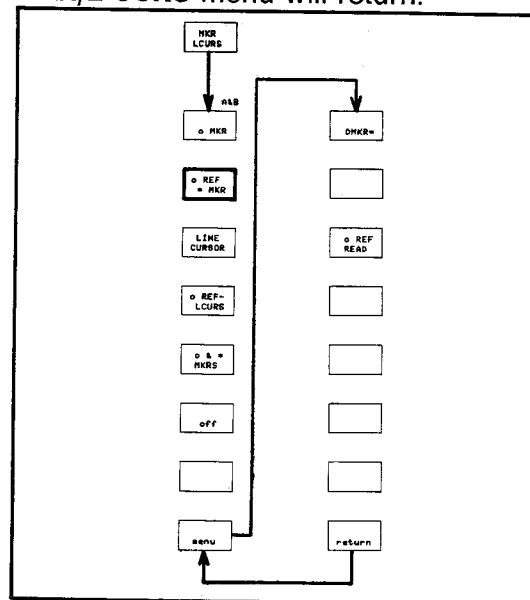

Figure 3-87. o REF- * MKR menu
1. Press the **MKR/L CURS** key. The **MKR/L CURS** menu will be displayed in Menu Area as shown in Figure 3-87.
3. Press the 'menu' softkey. The o REF- * MKR menu will be displayed as shown in Figure 3-87.